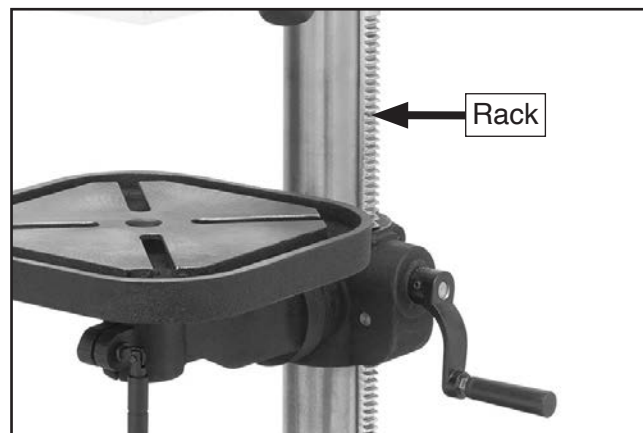

Figure 44. Location of column rack.
2. Rotate table to desired location on column, making sure to guide column rack with table (see **Figure 44**), then tighten table height lock handle to secure.